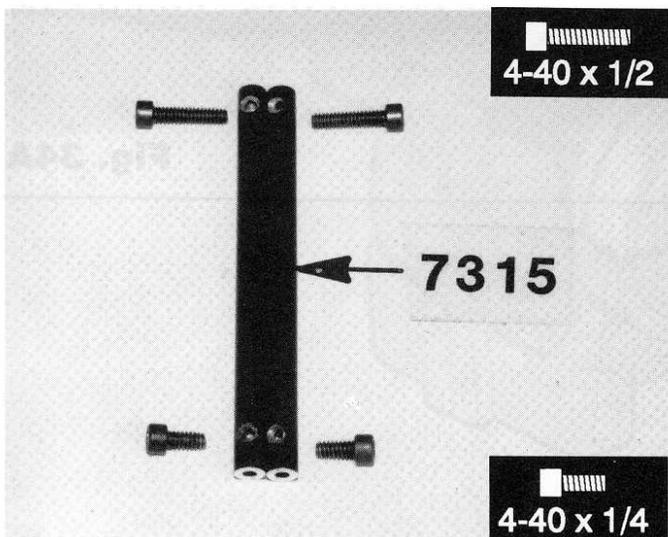

Fig. 29
□ **Figs. 29 & 30** From Bag 7-4 remove two #7315 nose brace tubes and the two short 4-40 x 1/4" SHCS and two long 4/40 x 1/2" SHCS screws as shown. We want to install the tubes so that the screw holes that are closest to the end of the tubes go towards the front of the car.